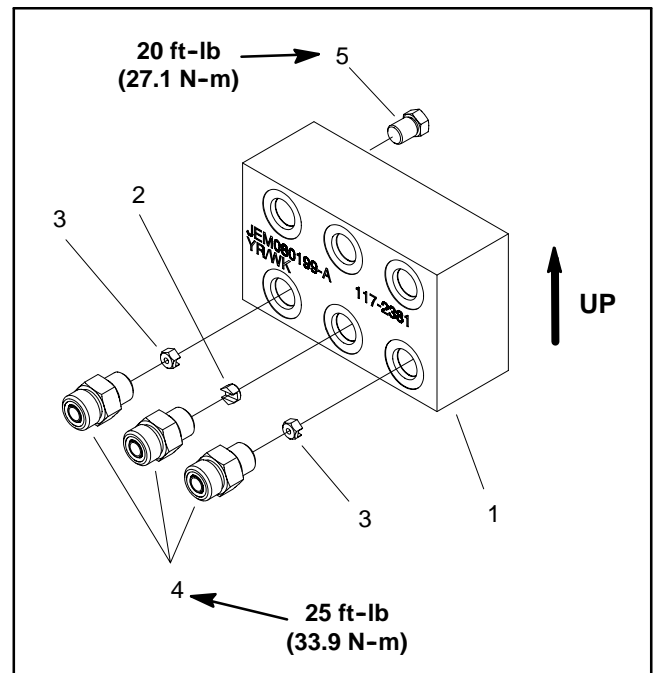

Figure 104
IMPORTANT: A flow control orifice is placed beneath several of the hydraulic fittings on the lift circuit junction manifold (Fig. 104). The manifold uses two (2) different orifice sizes. If a fitting is removed from the lift junction manifold and an orifice is in the manifold port, make sure to remove orifice and label its position for assembly purposes. Also note location of groove in orifice for assembly purposes.
6. If necessary, remove fittings from manifold and discard O-rings (Fig. 104).
1. If fittings were removed from junction manifold, lubricate and place new O-rings onto fittings. Install fittings into manifold openings making sure that orifice is correctly placed before threading fitting into manifold. Tighten fittings (see Hydraulic Fitting Installation in the General Information section of this chapter). Refer to Figure 104 for fitting installation torque.